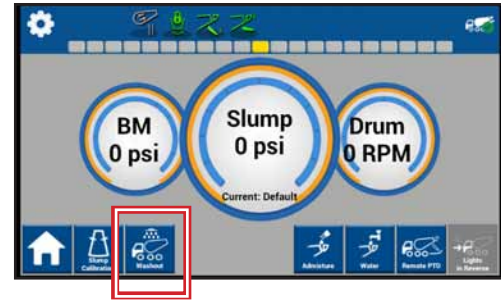

Figure 96
3. Select “Washout” (Figure 96).